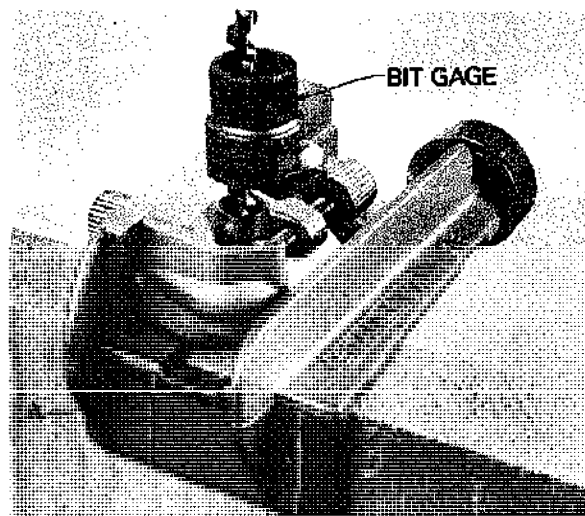

Fig. 10-45 Attaching and aligning the doweling jig.
- NOTE: The wider opening of the bit gauge is placed face down. When not used with a doweling jig it is reversed. See figure 10-45.